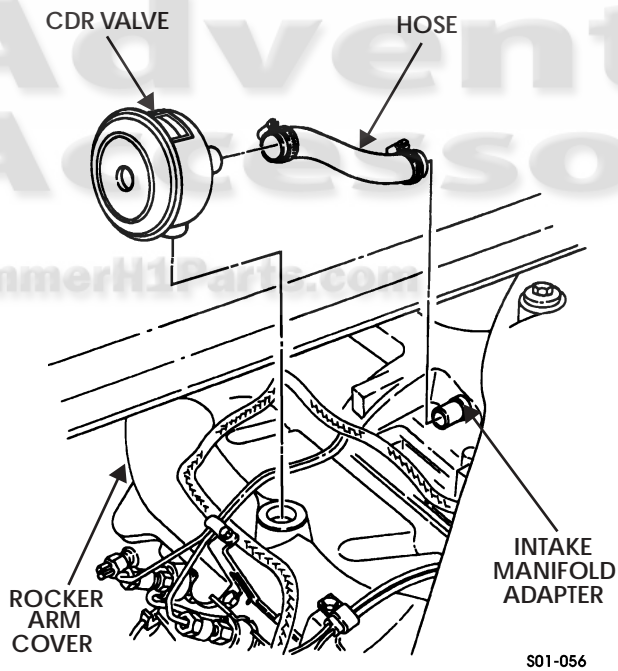

Figure 1-44: Crankcase Depression
2. Remove CDR valve from rocker arm cover (Figure 1-44).
1. Install hose on intake manifold adapter and CDR valve (Figure 1-44).